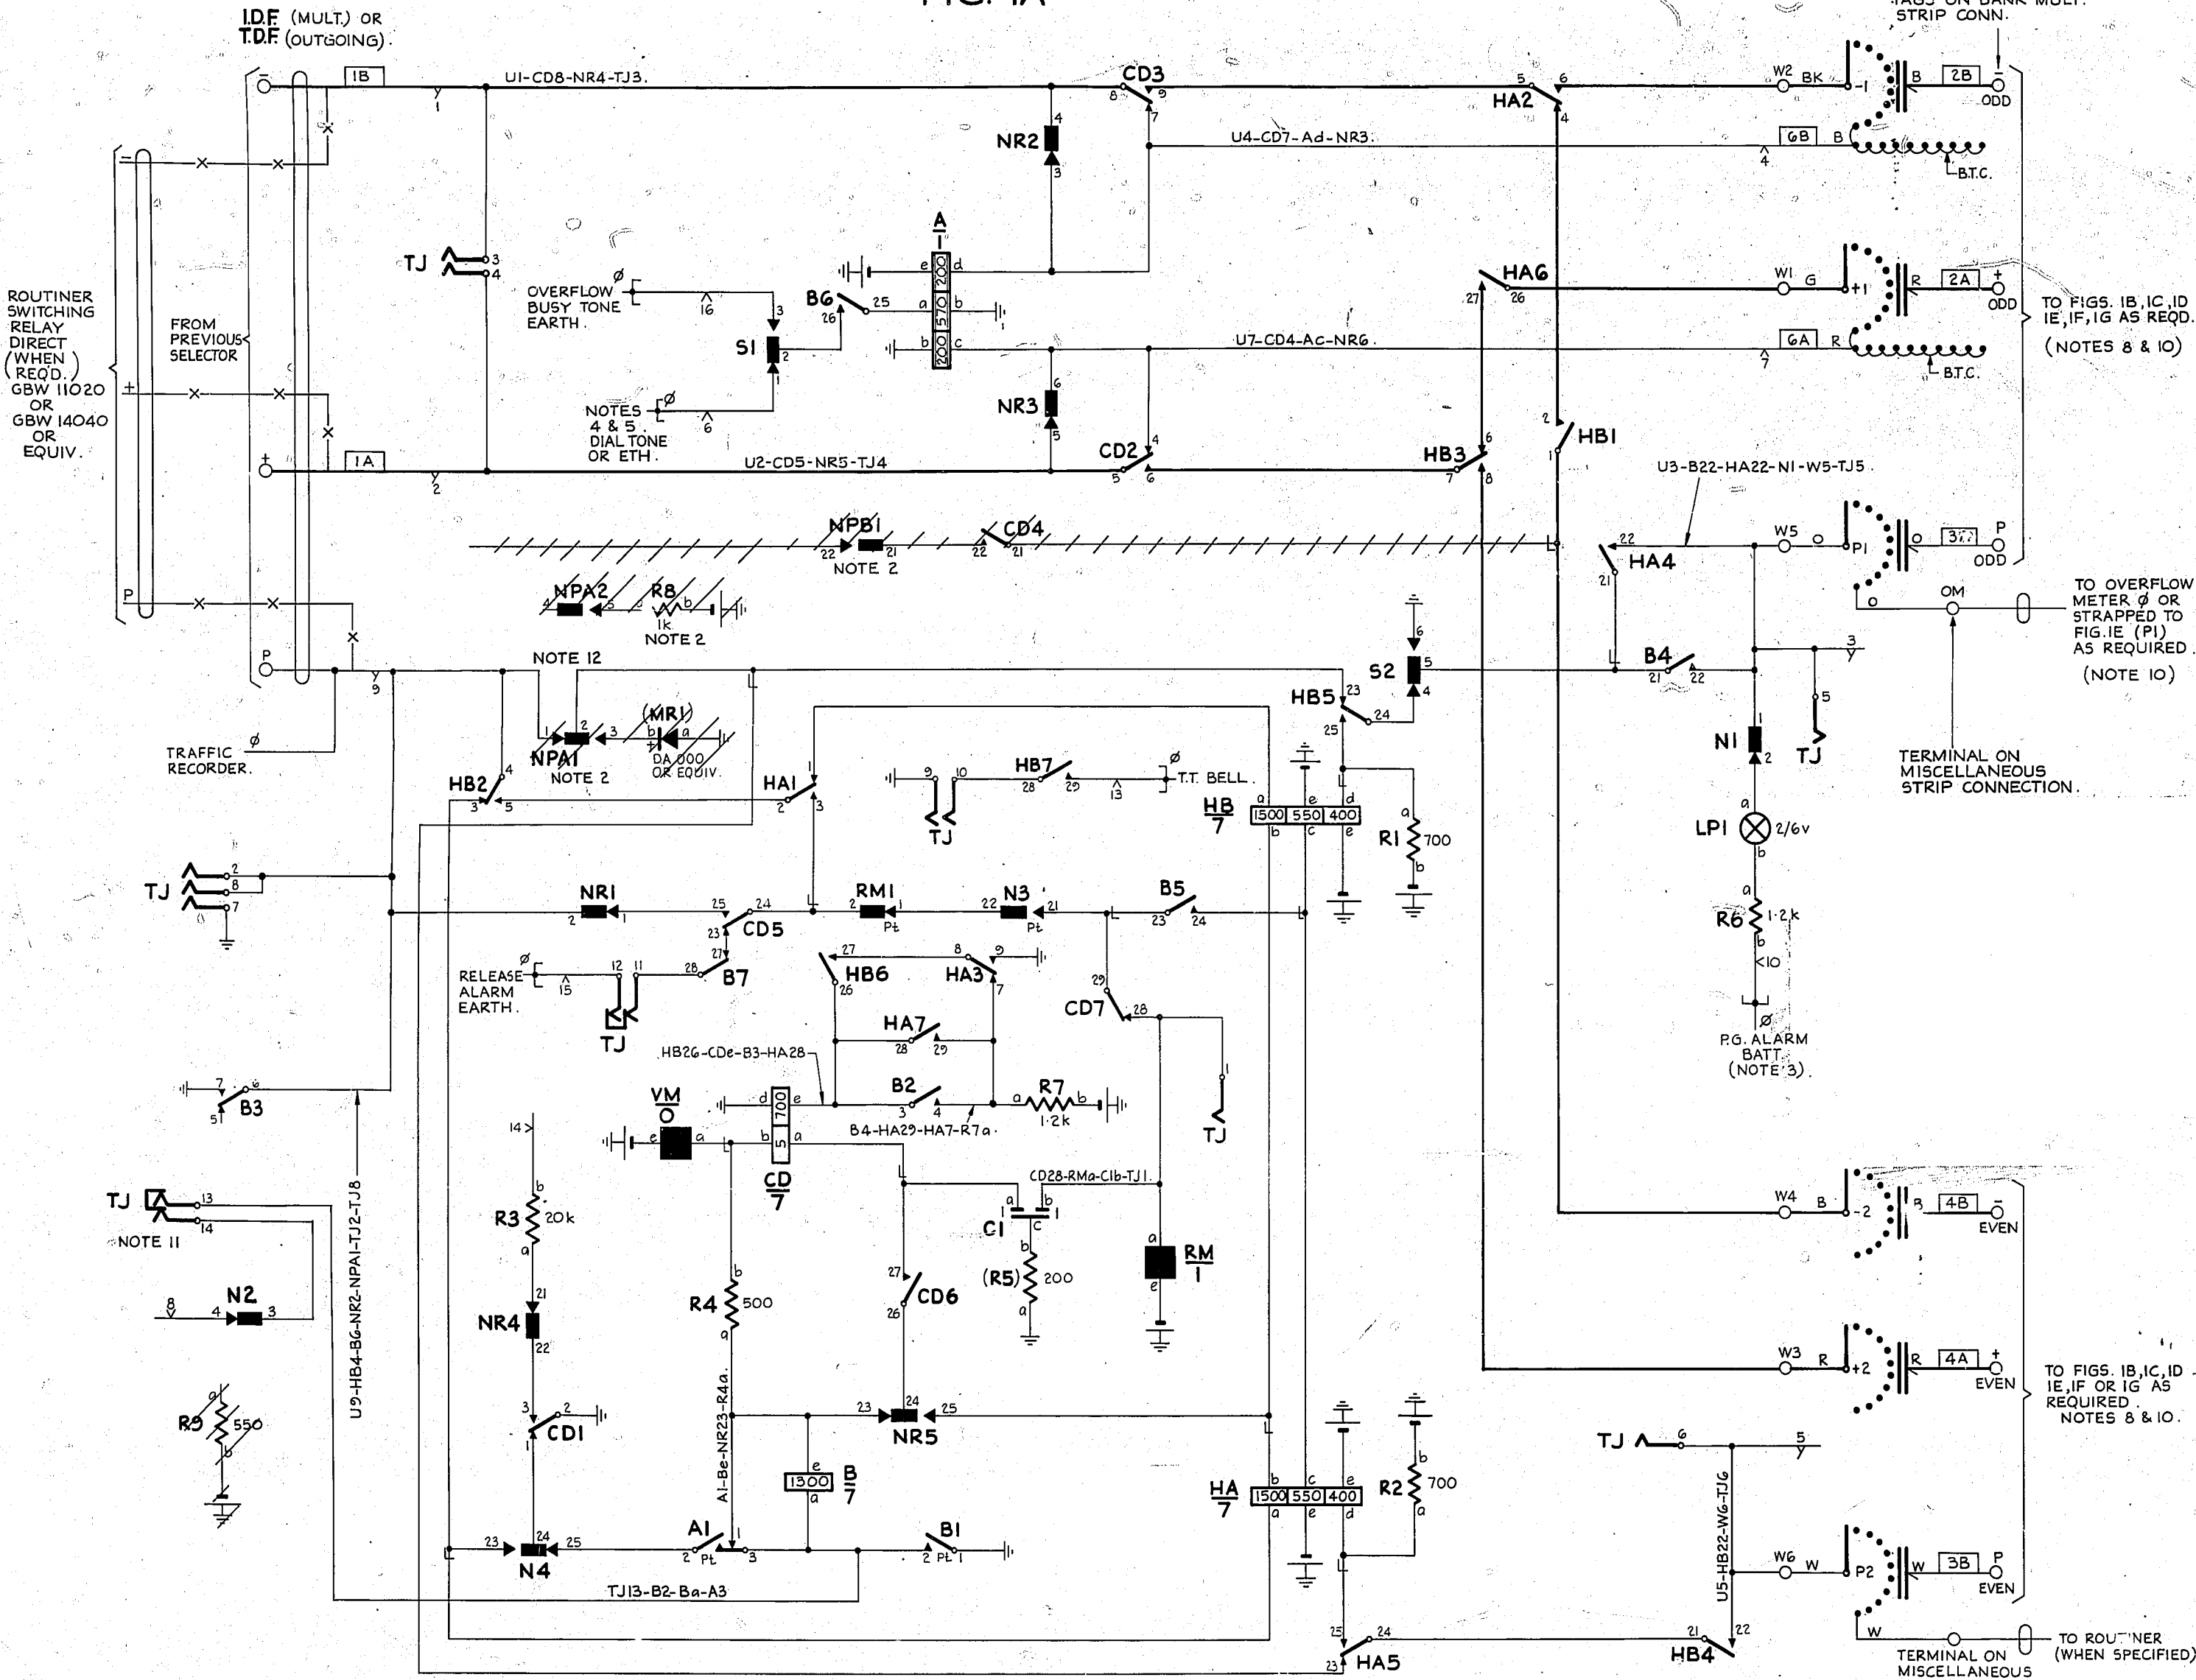

FIG. 1A
- BANK MULTIPLE CONNECTIONS TO THESE TERMINALS ARE AS SHOWN IN FIG. 1A.